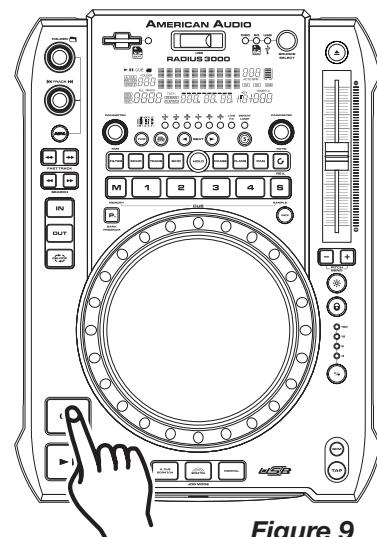

Figure 9
- 1) Press the *PLAY/PAUSE BUTTON (13)* during playback. This will pause playback at the exact same point the *PLAY/PAUSE BUTTON (13)* was pressed.
- 2) Press the *CUE BUTTON (14)* during playback. This will pause playback and return the track to the last set cue point.
7. AUTO CUE - *Figure 9*
This feature allows you to scroll through a track frame by frame, allowing you to find and set a starting cue, sample, or loop point. To use the scroll function you must first be in Pause Mode or Cue Mode. Once you are in Pause or Cue mode, turn the *JOG WHEEL (9)* to scroll through the track (*Figure 10*). Turning the wheel in a clockwise direction will advance the frame search and turning the wheel in a counter-clockwise direction rewinds the frame search. When you use the *JOG WHEEL (9)* the monitor (headphone level) function allows you to here what you are scrolling through. Once you reach your desired starting point you can set a cue (starting) point by pressing the *PLAY/PAUSE BUTTON (13)* as in *Figure 9*. Pressing the *CUE BUTTON (14)* as in *Figure 9* will now return you to the point you just set.